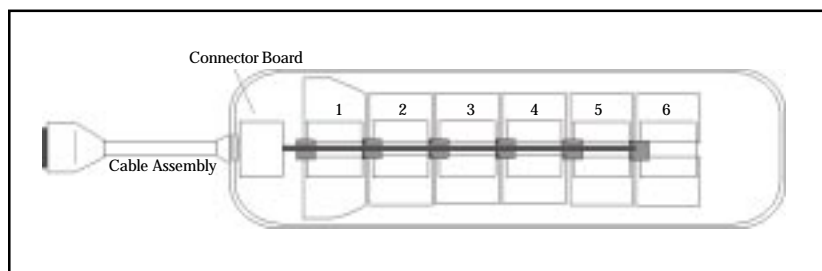
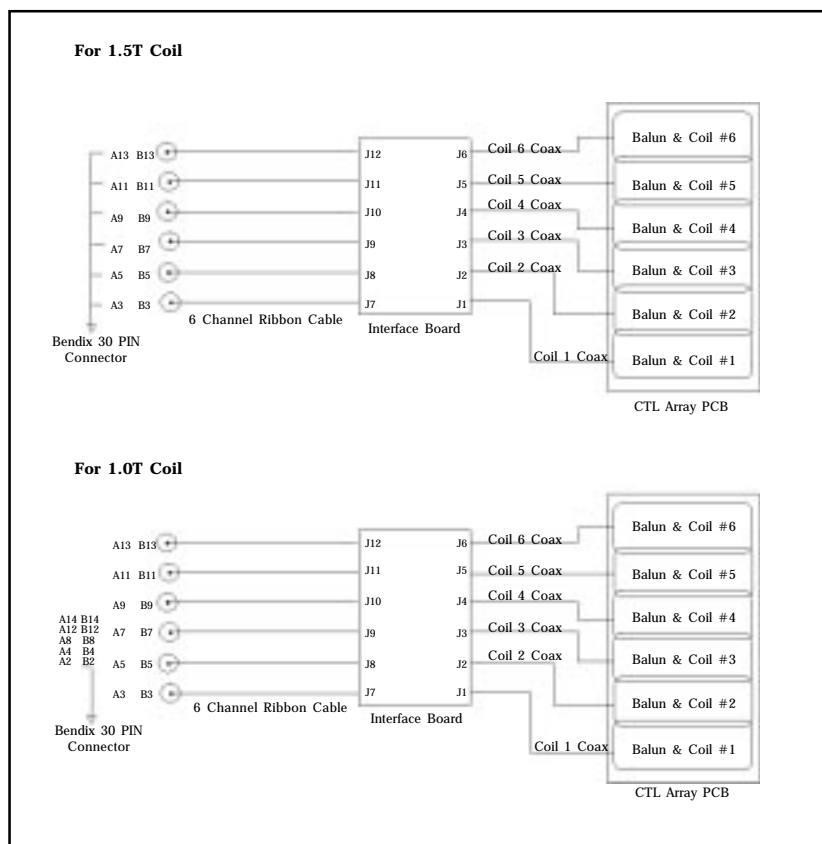

Figure 1: Block diagram of the coil.
Figure 2: Block diagram of the circuit layout.
- The block diagram of the Phased Array CTL Spine Coil is shown in *Figure 1*. It is designed for imaging the cervical, thoracic and lumbar spine. The coil contains 12 elements, which are divided into six quadrature pairs, each of which consists of a loop coil and a saddle coil. Each of the quadrature pairs is approximately 15cm in length with 1.2cm overlap between the adjacent sections. The signal from each coil pair is combined through a two-element quadrature combiner. The Phased Array CTL Spine Coil uses six signal input channels (see *Figure 2*). A maximum of four contiguous inputs, representing four quadrature pairs (eight coil elements) can be selected at a time.